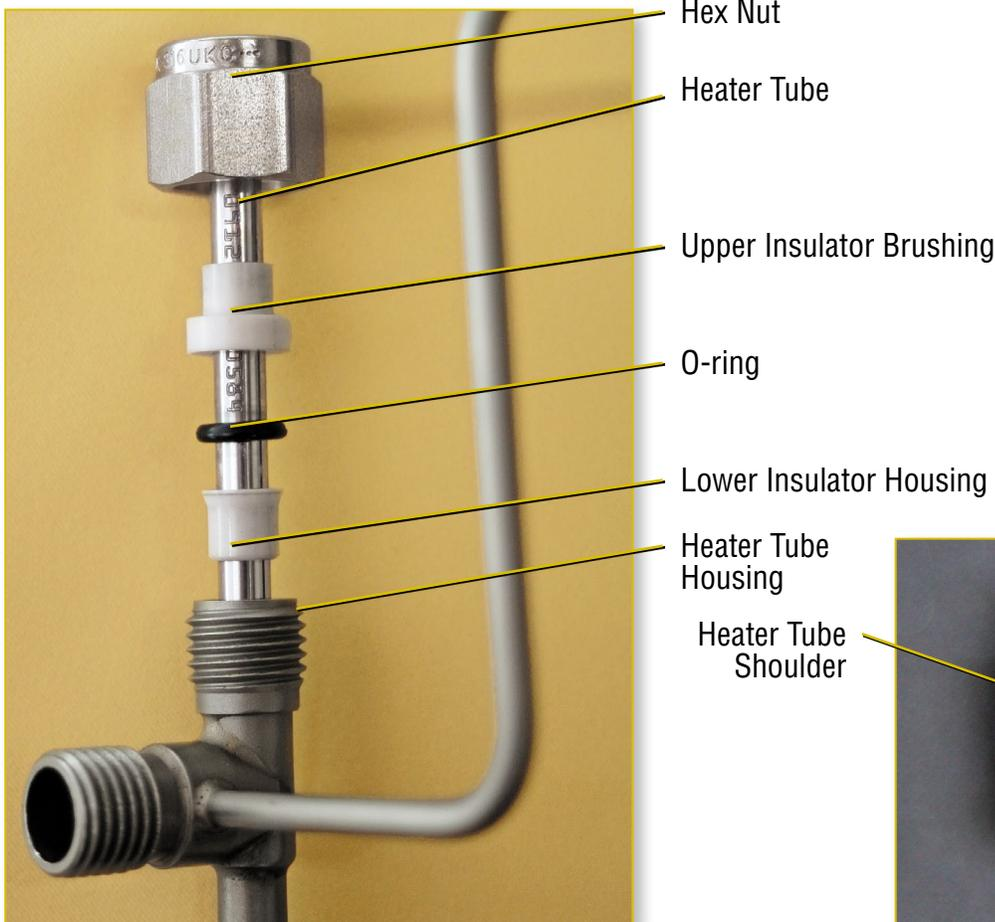

Figure 15 Heater Tube Installation Components
5. the riveted end down and the tube ID number closest to the DP filter housing. Secure the heater tube to the top of the heater tube housing using the lower insulator bushing with the flare facing end of tube, O-ring (supplied in the heater tube kit), upper insulator bushing, and hex nut [Figure 15]. Finger tighten loosely.